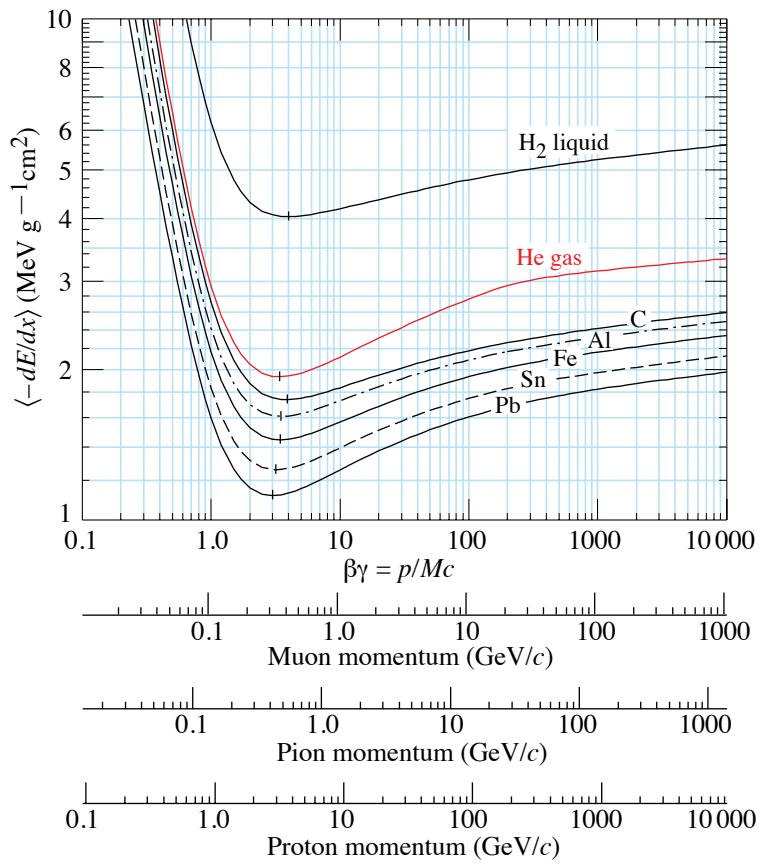
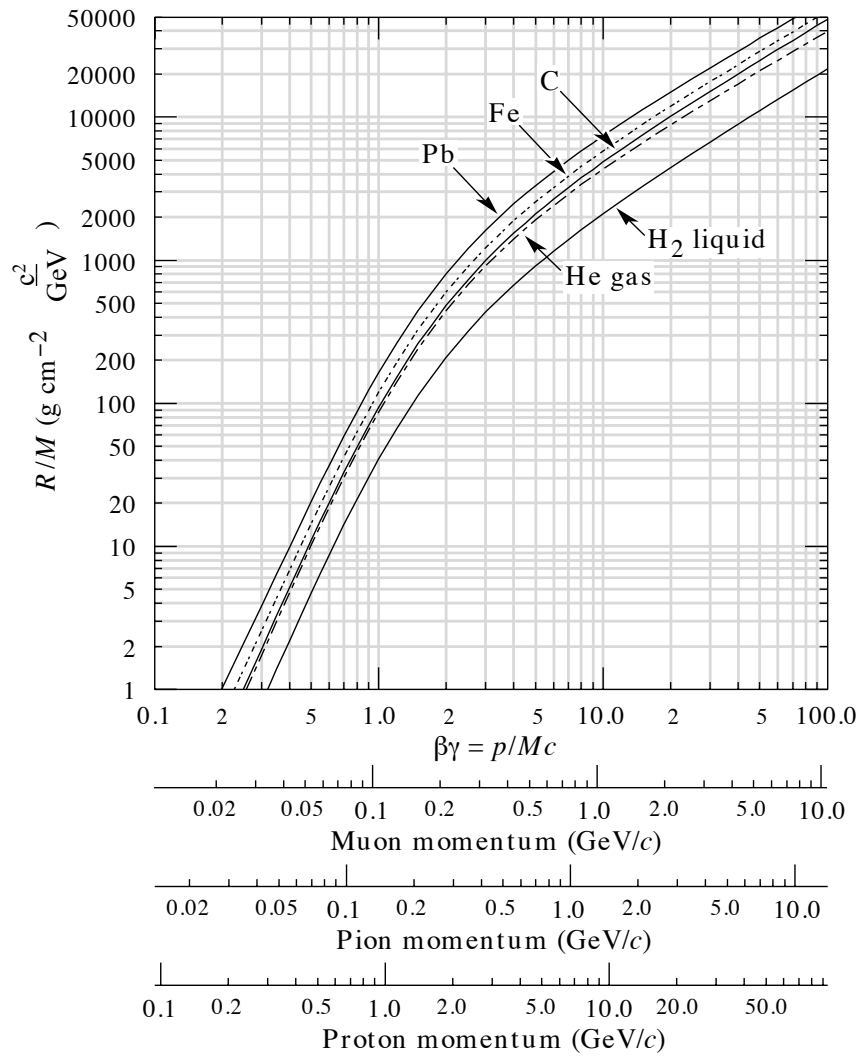

Figure 1: Energy loss per unit distance travelled for various charged particle types. From [3].
Figure 2: Range/M (where M =particle mass in GeV/c^2) for charged particles traveling through material. From [3].
for various charged particles is shown in Figure 1, while Figure 2 shows this integrated up to indicate the range, or how far a charged particle will travel on average in a given material before coming to rest.
- c. According to Figure 2, below what momentum (in GeV/c) do muons to stop in 10 cm of scintillator? What kinetic energy does this correspond to? Hints: What R/M values does 10 cm correspond to on the y-axis? How can you convert a range in cm into g/cm^2 ? Recall that muons have an mc^2 of 0.105 GeV.